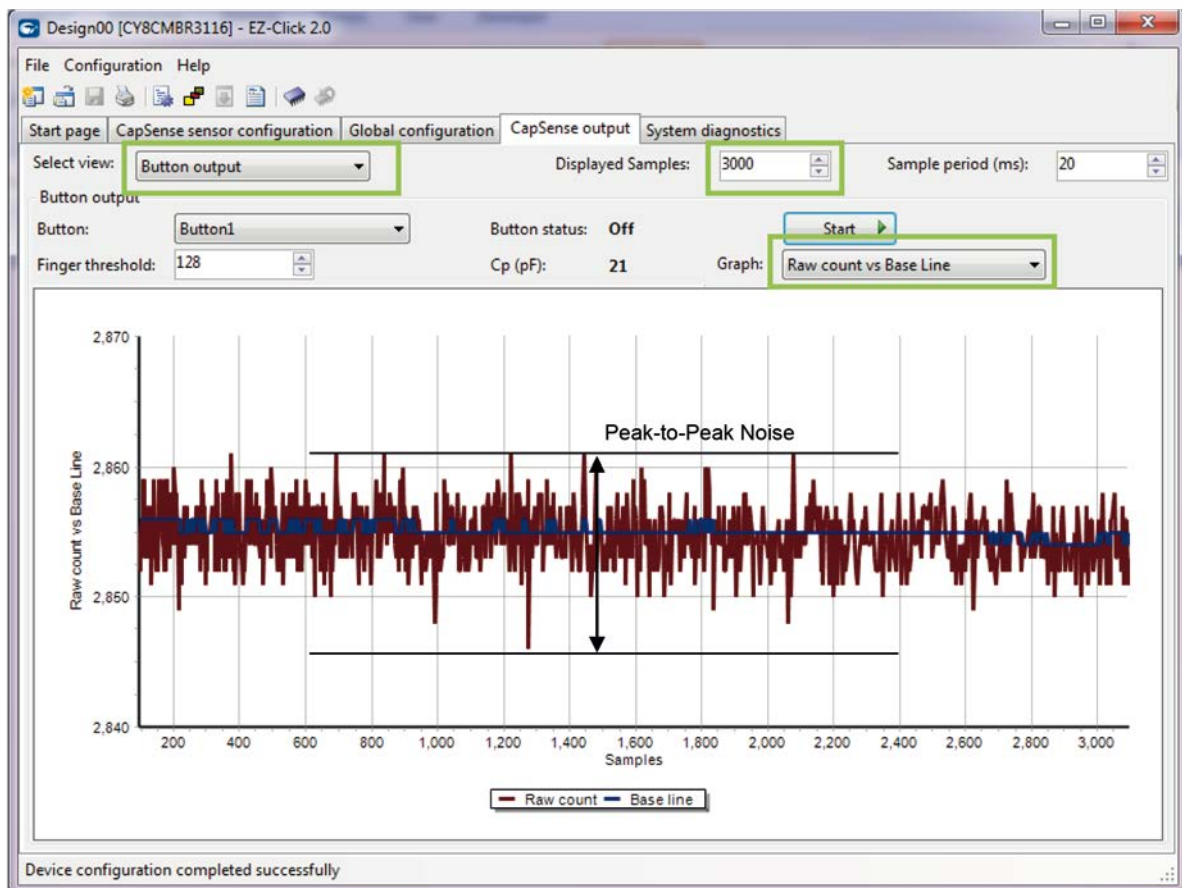

Figure 6-1 Measuring Noise in EZ-Click Customizer
4. Measure the noise count which is equal to the raw count (max) - raw count (min), as Figure 6-1 shows. The noise counts for the graph shown in Figure 6-1 is 2860 - 2845 = 15 counts.